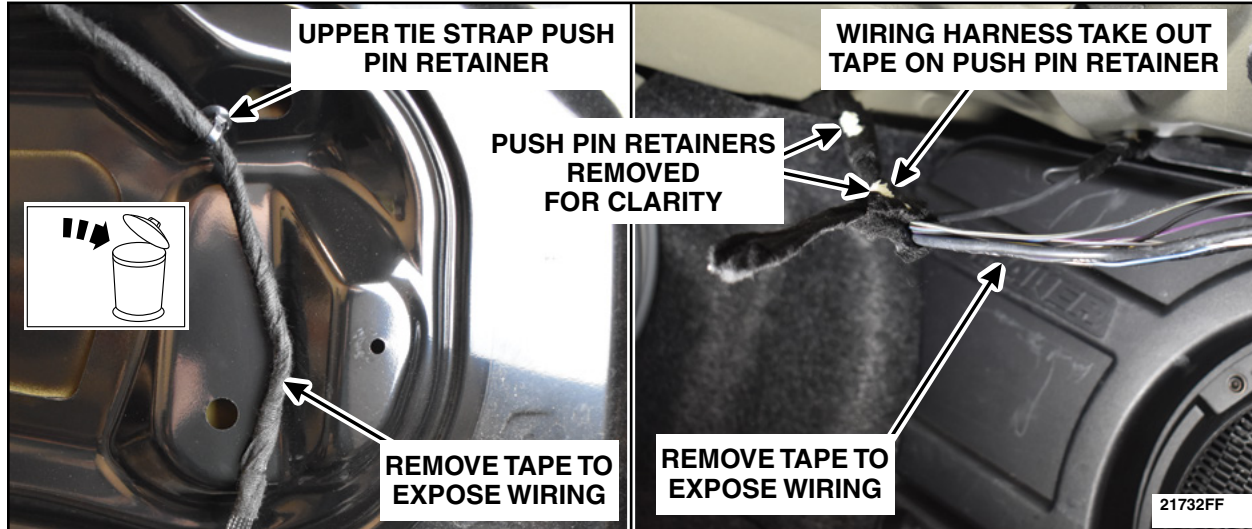

FIGURE 35
48. Remove and discard the felt tape to expose the wiring within the harness from the upper tie strap push pin retainer located on the luggage compartment lid to the wiring harness take out tape on push pin retainer located inside the luggage compartment. See Figure 35.